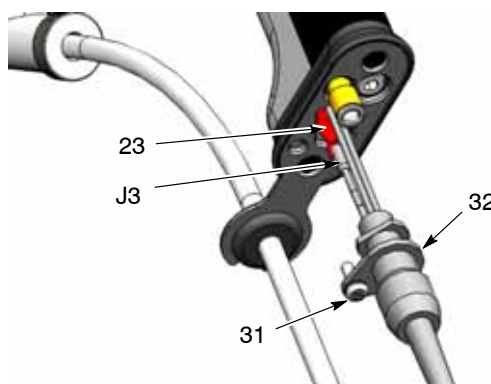

Figure 19 Disconnecting the Control Cable from the Handle
3. See Figure 19. Remove the screw (31) securing the cable (32) to the bottom of the gun handle.
4. Rotate the cable to release it from the handle base. Gently pull down on the cable until you can grasp the trigger switch receptacle (23).